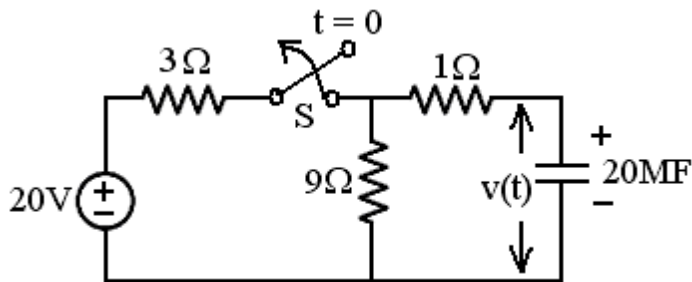

Fig.1
- 1.a) Find  $v(t)$  for  $t \geq 0$ , when the switch is opened at  $t = 0$  for the circuit shown in Fig.1.